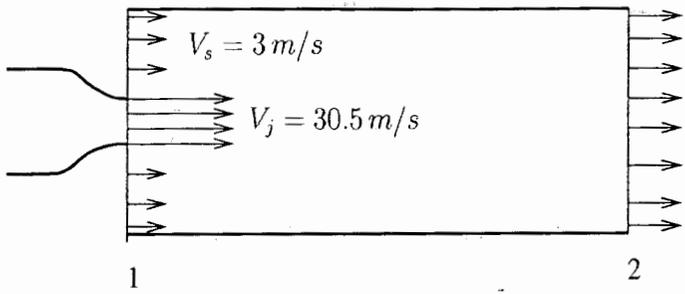

Figure 1 (for Question 1)
1. A water jet pump has jet area 0.009 m² and jet speed $V_j = 30.5$ m/s. The jet is within a secondary stream of water having speed $V_s = 3$ m/s (see Figure 1). The total area of the duct (the sum of the jet and secondary stream areas) is 0.07 m². The water is thoroughly mixed in the jet pump. The velocity profile at the exit may be approximated by a uniform profile. The pressure of the jet and secondary stream are the same at the pump inlet. The drag on the walls of the duct may be neglected.